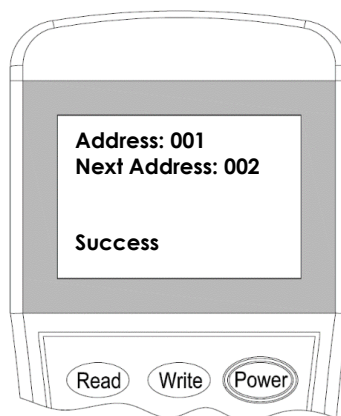

Figure 6
3. Input the desired device address value from 1 to 254 and then press **"Write"** to save the new address (Figure 6).